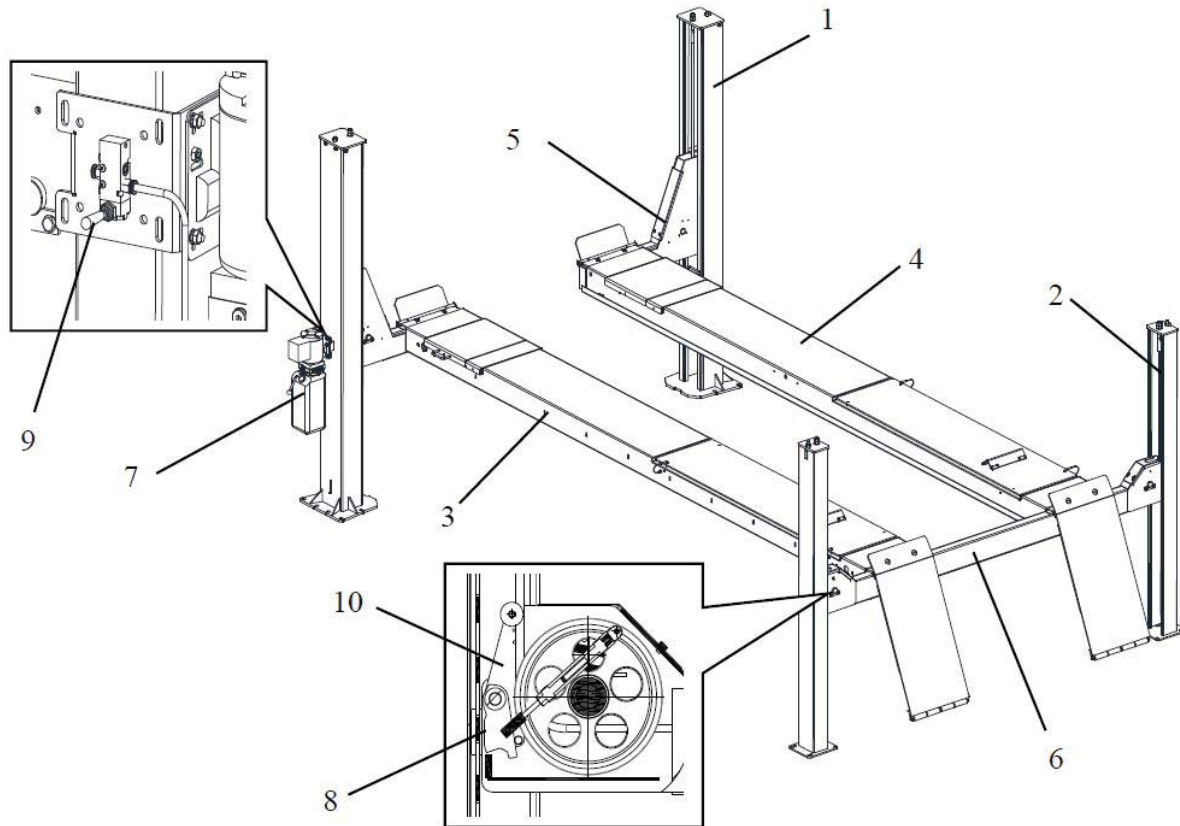

Figure 2 – Lift
This chapter describes the lift's principal elements, allowing the user to be familiar with the machine. As shown in figure 2, the lift is composed of four columns: N.2 front columns (1), N.2 rear columns (2), two platforms: the power-side platform (3) with the hydraulic cylinder included and the off-side platform (4), and two beams: the front beam (5) and the rear beam (6), anchored to the ground by means of the column base plates. Raising motion is carried out by pushing the lifting button on the power unit (7) to operate a power unit delivering the hydraulic fluid to cylinders to act on cable lifting system. Lowering motion is controlled by pushing the lowering lever on the power unit and carried out under the weight of the load lifted. The automatic mechanical back-up safety (8) holds on the lift in the elevated position, can be released by pushing the lever of the control valve (9). The slack cable safety (10) can hold on the lift in event of cable slackening and/or failure.